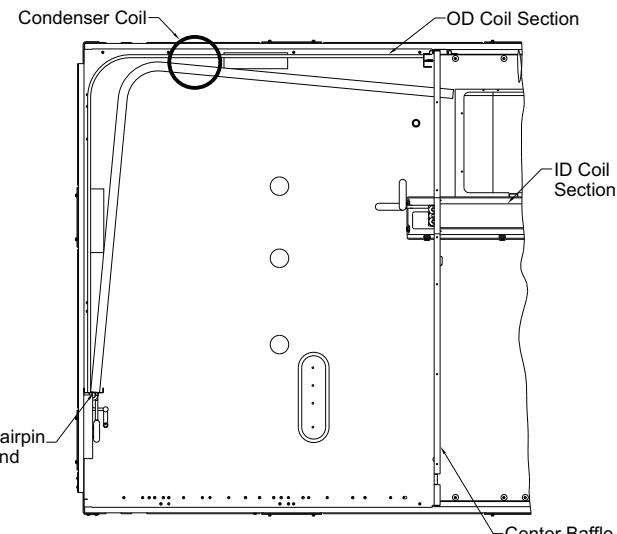

Fig. 22 – Separating Coil Sections (Top View)
8. Insert a spacer (field-supplied) between the tube sheets to hold the coils apart. See Fig. 22.